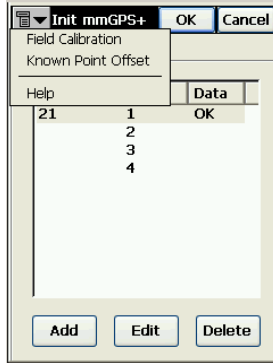

Figure A-12. Open Field Calibration
4. On the *Init mmGPS+* screen, tap the **menu bitmap** in the upper left corner of the screen and tap **Field Calibration** (Figure A-12).